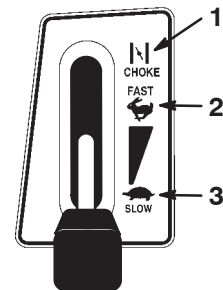

Figure 9
5. Shift the throttle lever to Choke (Fig. 9).
7. After the engine starts, slowly shift the throttle lever to Fast (Fig. 9). If the engine stalls or hesitates, shift the throttle lever back to Choke for a few seconds. Then shift the throttle lever to Fast. Repeat this as required.
1. Shift the throttle lever to Fast (Fig. 9).